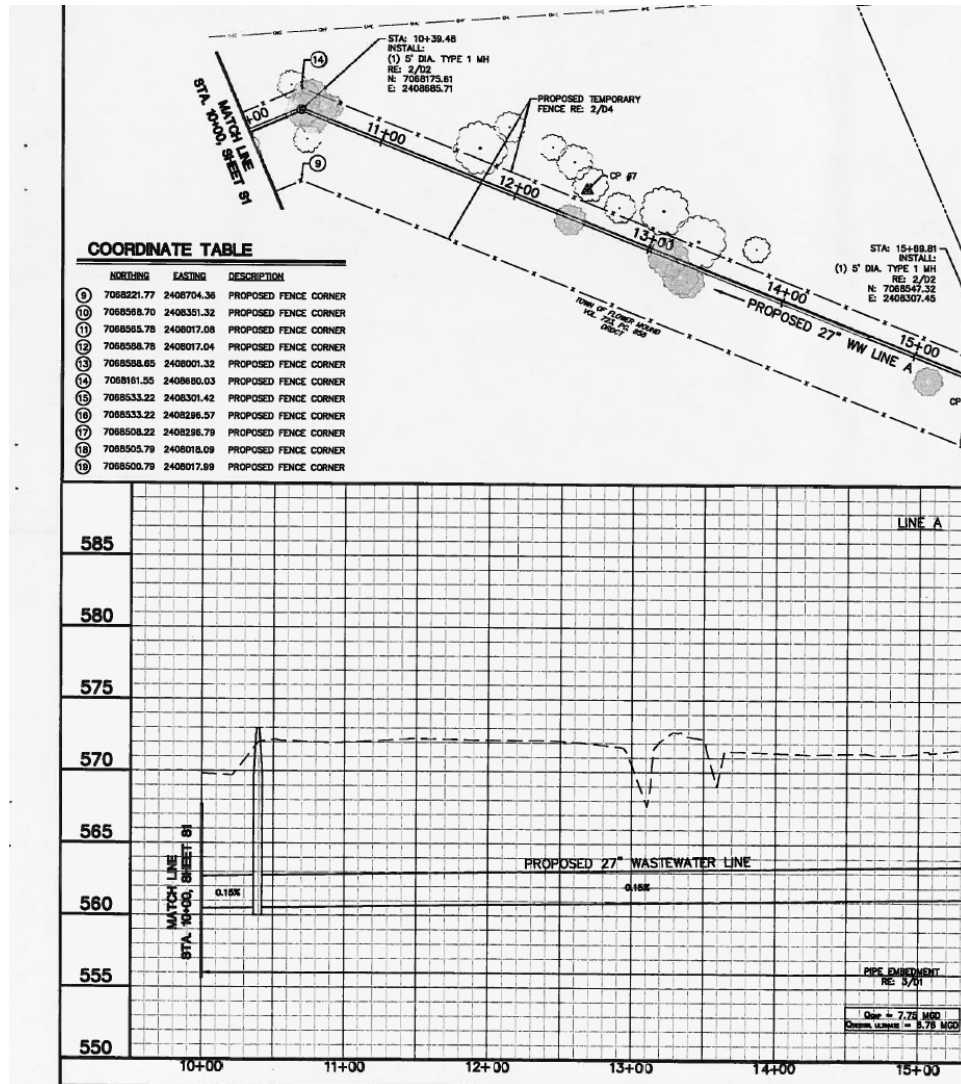

Figure 1: Engineering drawing of sanitary sewer system
1. Figure 1 is a portion of an engineering drawing of a gravity-flow wastewater conduit.